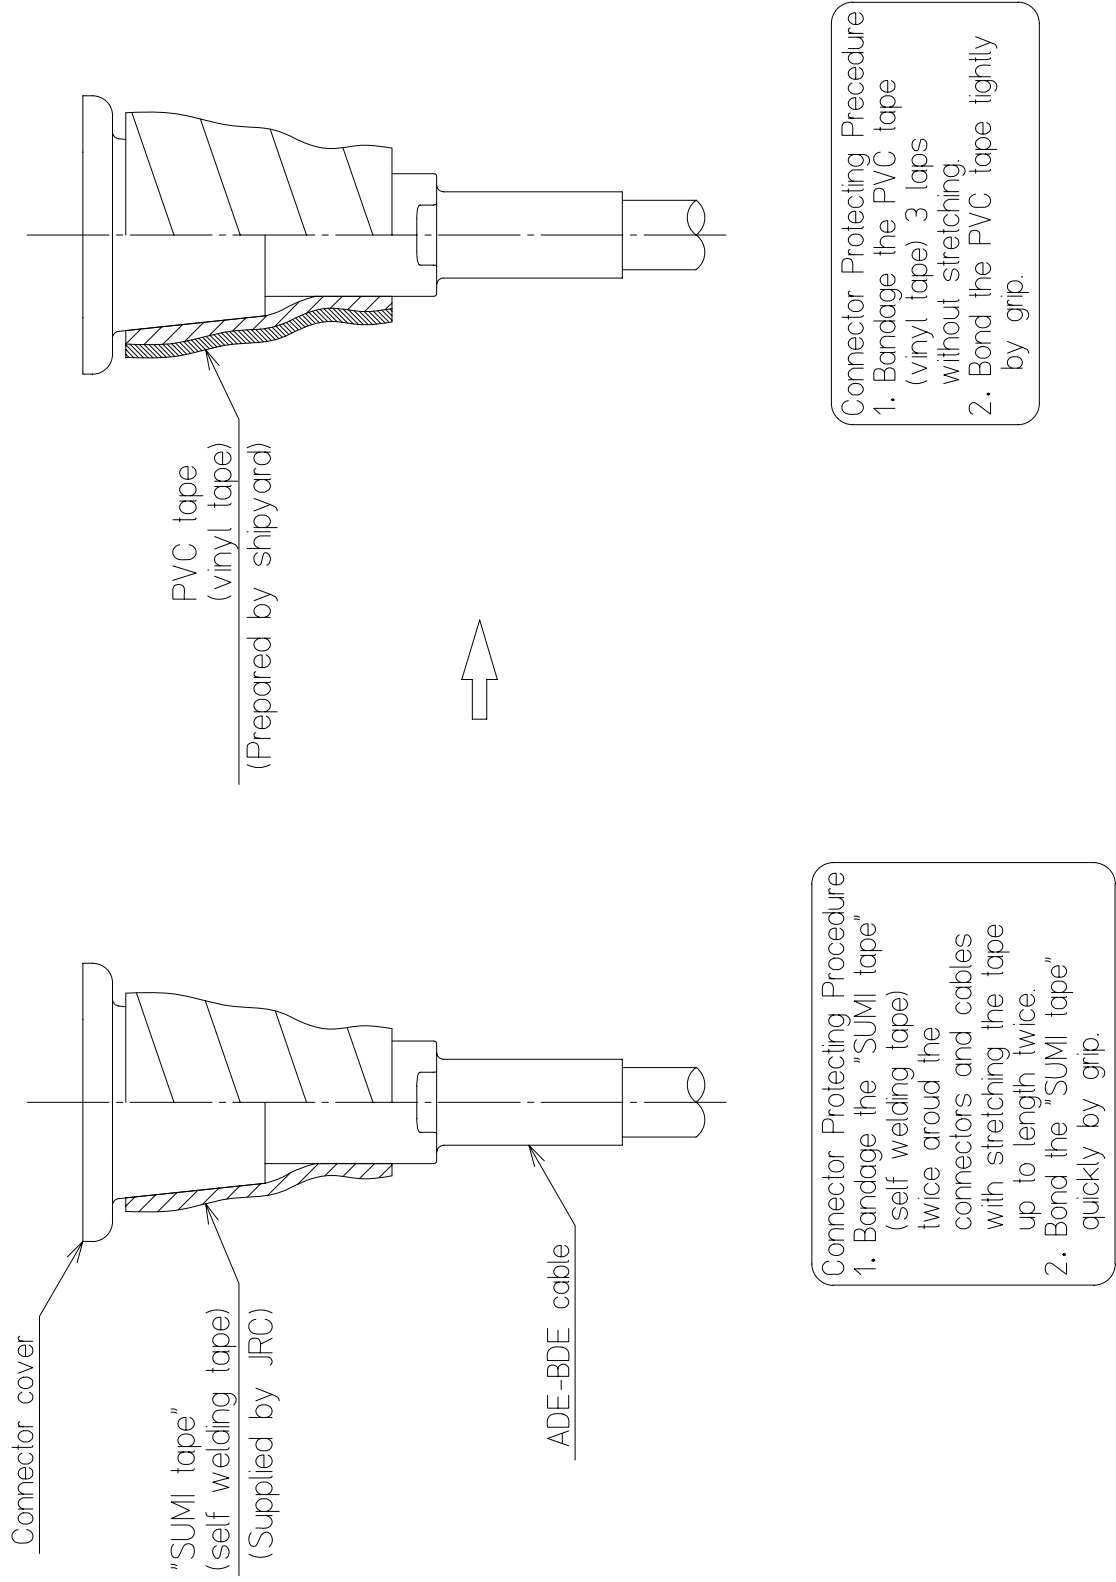

Fig.3-1-1c Taping connector cover (Installation Example1)
- (5) Taping at the bottom of connector cover. (Refer to Fig. 3-1-1c or 3-1-2c.)